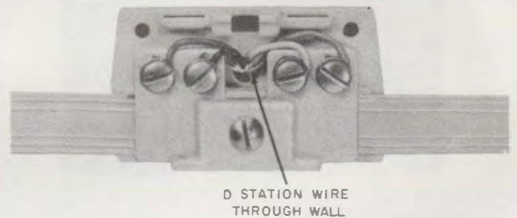
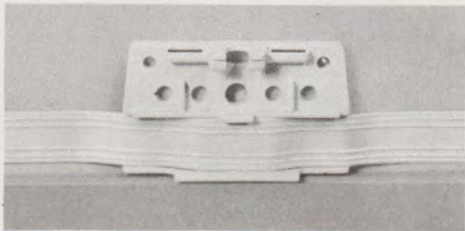

Fig. 5—Terminating Wire on No. 717 Terminal
Fig. 4—Wire in Channel on Base of No. 717 Terminal
- (1) Remove snap-on cover and four screw terminal block.
(2) Select desired location, remove paper liner from back of terminal base and press base firmly against mounting surface.
(3) Place wire in channel on terminal base and press firmly (Fig. 4). Placement of wire in channel must be accurate to eliminate possible short and crosses.
(4) Place terminal block over wire channel. Align block with guide pins in base for proper seating. Exert sufficient pressure with screwdriver so mounting screw will pierce wire insulation covering screw hole. Secure block to base.
(5) Terminate D Station Wire or cord conductors on screw terminals (Fig. 5) and replace snap-on cover.